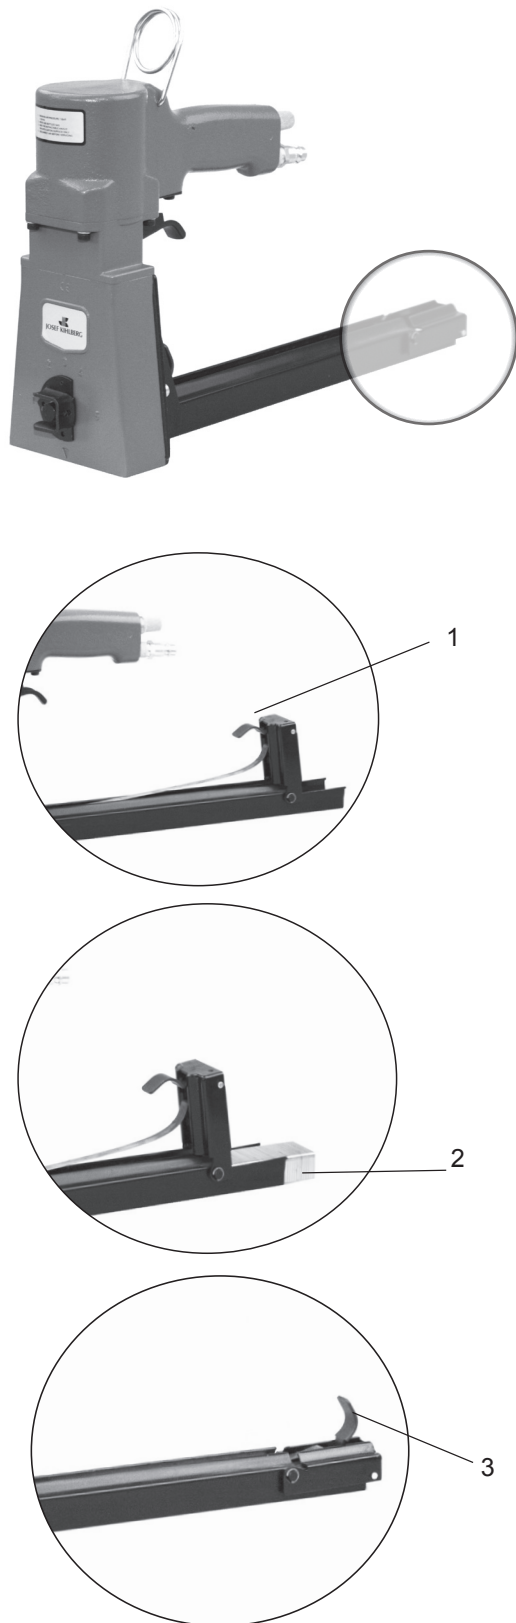

Fig. 8
1. Pull the pusher all the way out. (Fig.8/1)